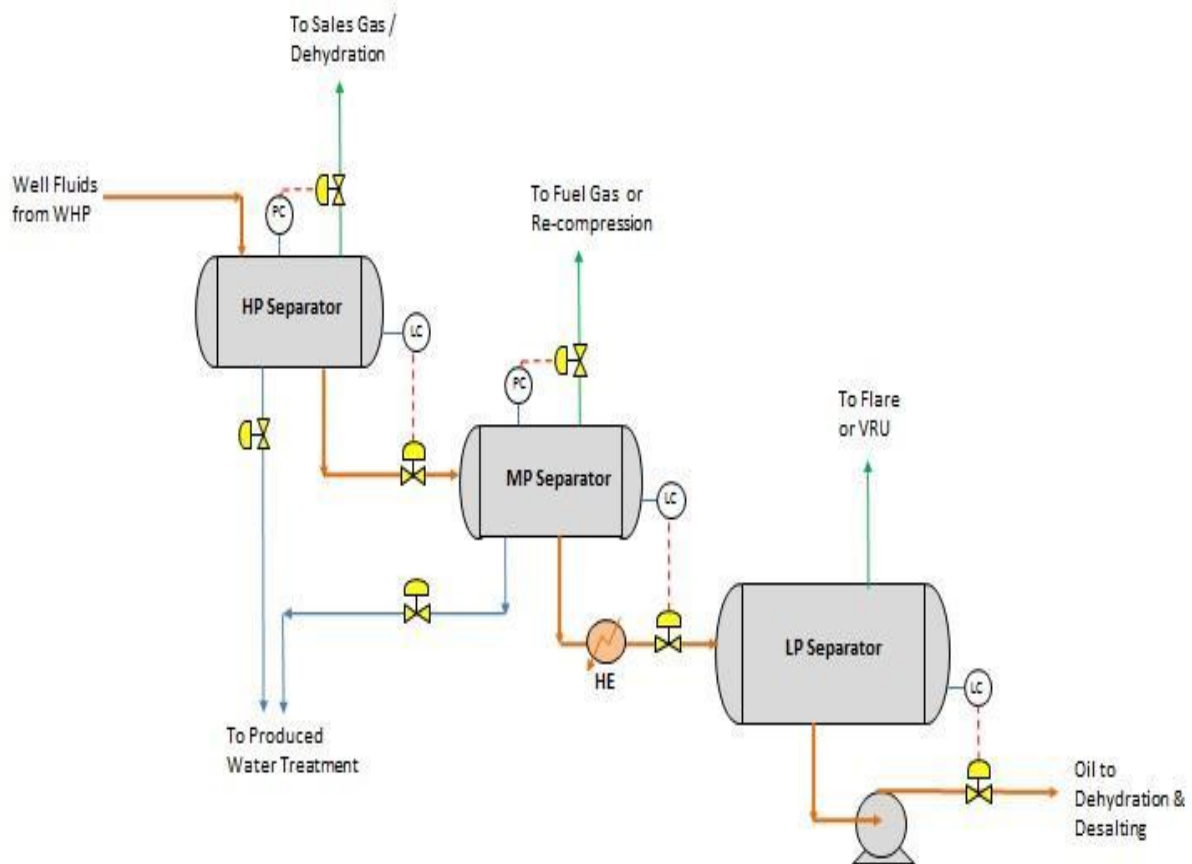

Figure 4: Typical 3 Stages Separation.
- In this case, wells with decreased well pressure would be rerouted to a lower pressure separator, thus maximizing production. Figure 4 shows a typical flow scheme of 3 stages separation.